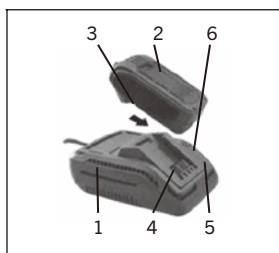

FIG. 2
1. Place the battery charger (1) (Fig.2) in a dry location near a 110–120V 60 Hz outlet
2. Plug the battery charger into the outlet and make sure the green LED indicator light (5) (Fig.2) comes ON. If it does not, refer to the chart (Fig. 3) to identify the problem.
3. Turn the battery (2) upside down and slide it onto the charger.